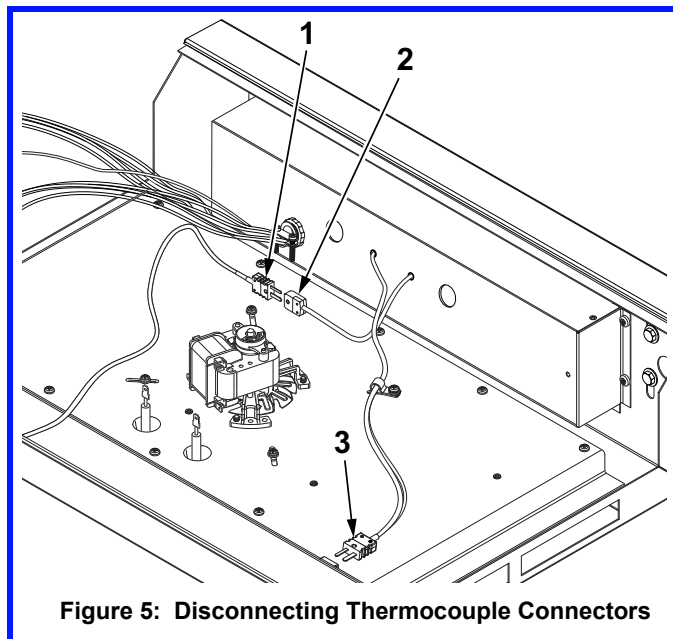

Figure 5: Disconnecting Thermocouple Connectors
- When exchanging the header, each Thermocouple connector must be disconnected. See Figure 5, Items 1 through 2. Item 1 (p/n: W0037) is a male connection and does not go through the Header and does not need to be taken apart. Item number 2, is a female receptacle, (p/n: W0038) and must have the wires removed before the header can be removed.
- Remove the two screws on one female receptacle and one male receptacle and lift off the cover. See Figure 5, Items 2 and 3. Place the screws and cover in an area where they will not be misplaced. Loosen the two screws on the inside and pull the two wires away from the receptacle.